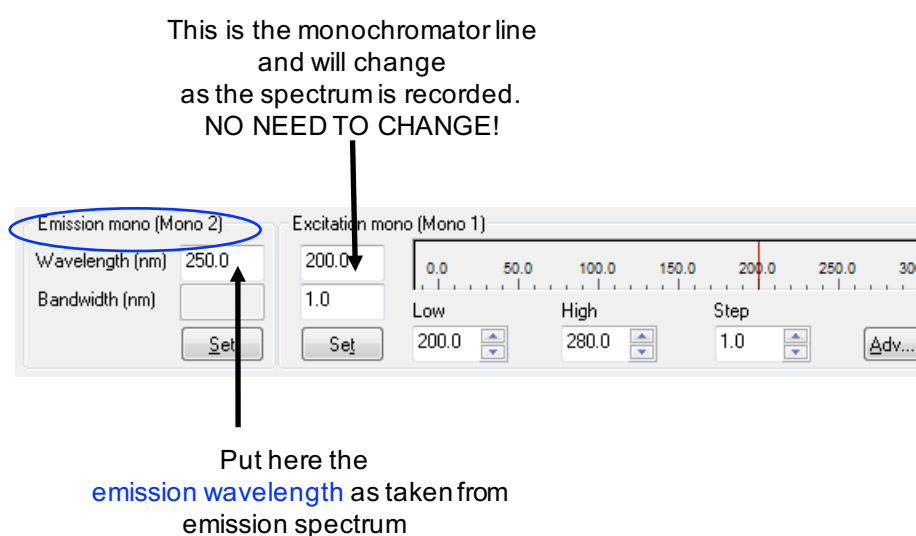

Figure 3. The Emission mono (“Mono 2”) panel.
- Select the “Excitation Scanning” using the radio button, a Monochromator panel will show up (Figure 3).